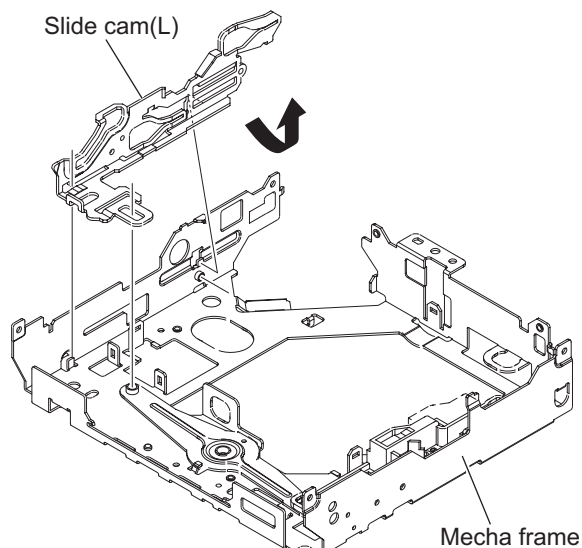

Fig.12
- Take out the slide cam (L) in the direction of the arrow. (See Fig.12.)